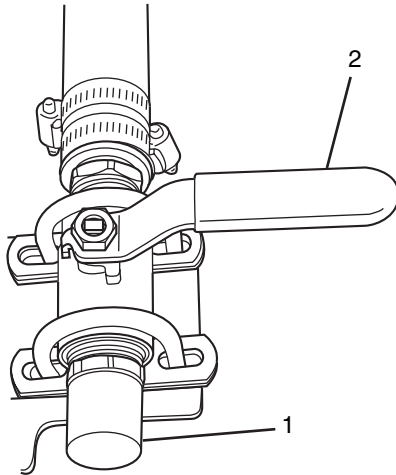

Figure 37
4. Connect a hose to the fitting (Figure 37, Item 1).
5. Open the valve (Figure 37, Item 2).